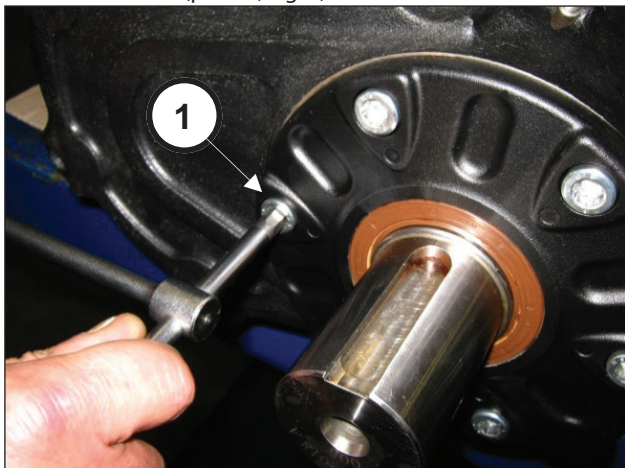
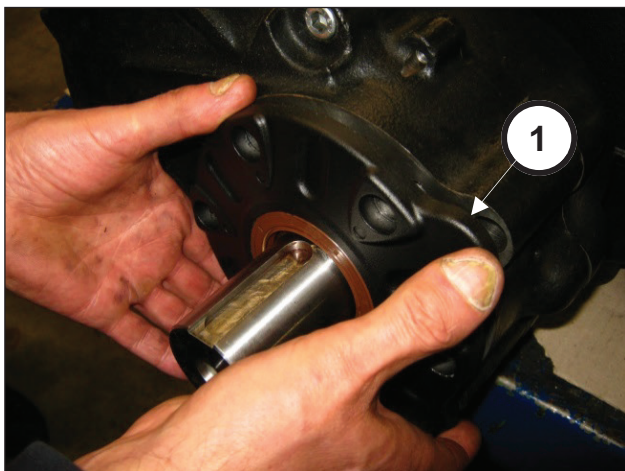

Fig. 4
Fig. 5
Unscrew the pinion cover fixing screws (pos. ①, Fig. 4) and remove the cover (pos. ①, Fig. 5).